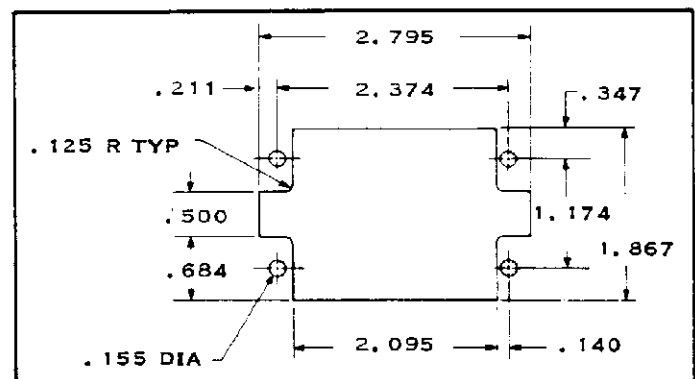

FIGURE 7
- (a) Make a cutout in the Panel using the dimensions in Figure 7.